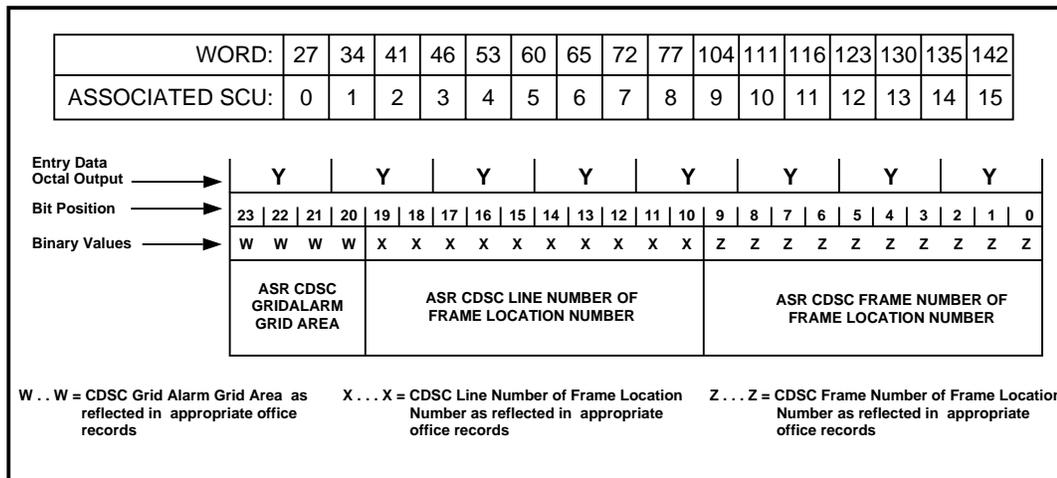

Figure 2. GLF Word in Unit Type Translator
3. Verify that the GLF word in the Unit Type (UT) translator (Figure 1) is correct for the appropriate SCU/CDSC. Figure 2 shows the layout of the GLF word for each SCU.